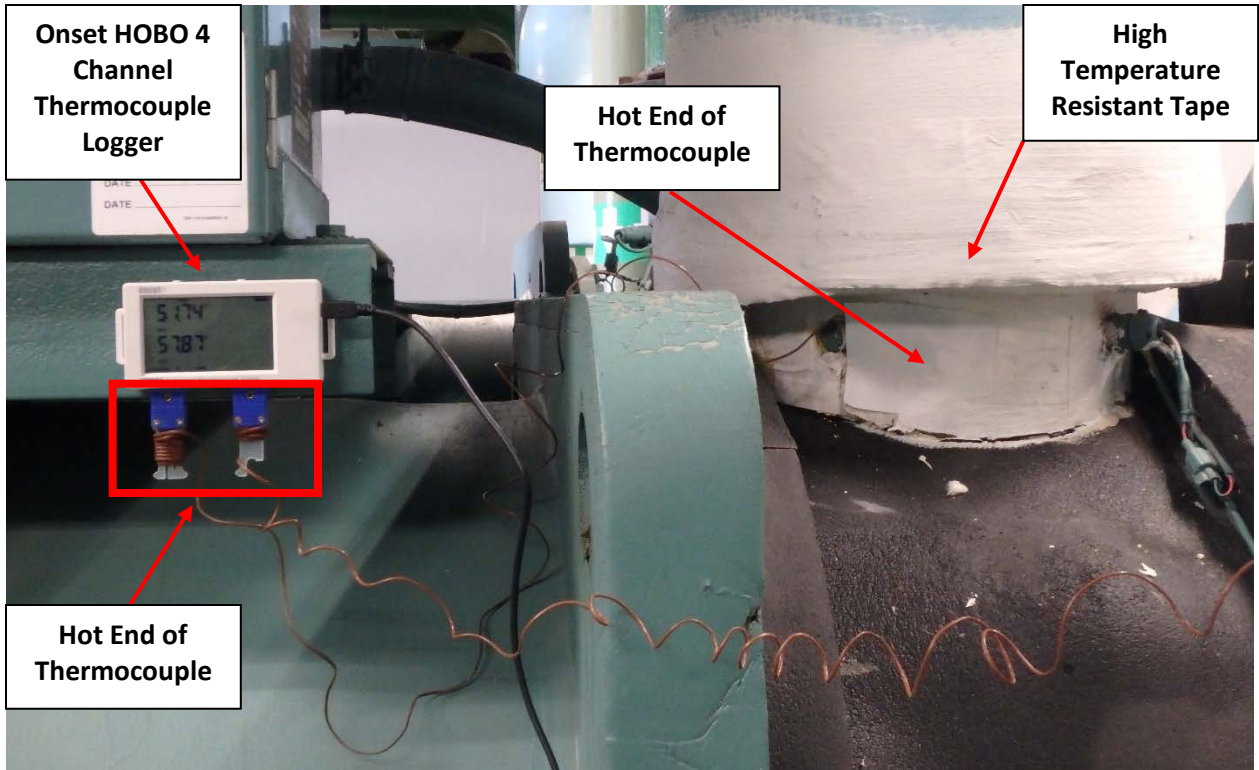
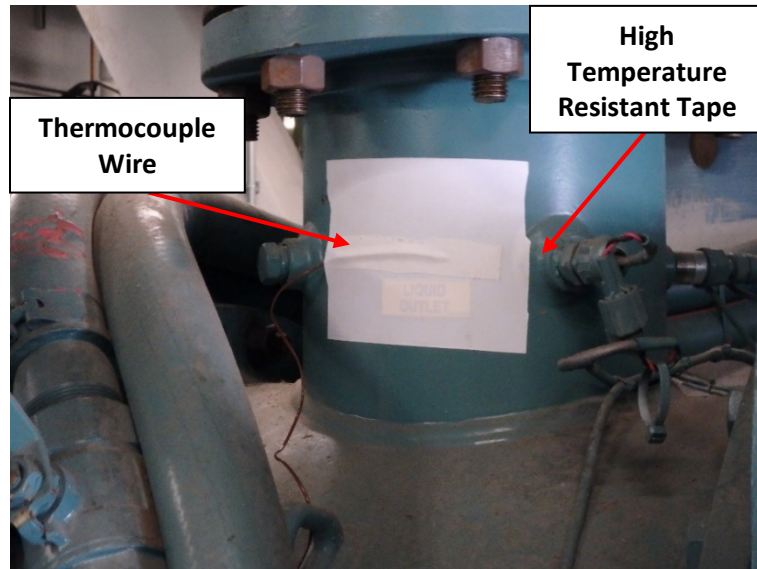

Figure A.12.10: Field setup for the Onset HOB0 4 Channel Thermocouple Logger with two type T thermocouples attached to supply and return water flow pipes.
Figure A.12.11: The hot end of a thermocouple wire taped to the surface of a condenser.
3. Place the Onset HOBO 4-Channel Thermocouple Logger on a cool surface separate from the surface in which the hot end of the thermocouple will be placed. The back of the logger is magnetic, making it easy to secure to any metal surface as shown on Figure A.12.10.
4. Secure the hot end of the thermocouple onto the surface of the system component similar to what is shown on Figure A.12.10 using the high temperature resistant tape. Also see Figure A.12.11.